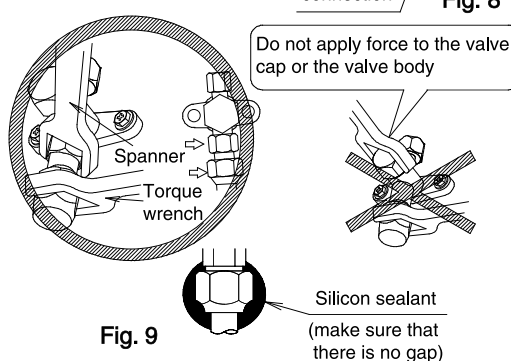

Fig. 9
- When using the low outdoor temperature cooling mode etc., the pressure on the low pressure side might drop, so the flare nut on the stop valves should be sealed completely with silicon sealant or the like in order to prevent frost from forming on it (both gas and liquid sides). (Refer to Fig. 9)